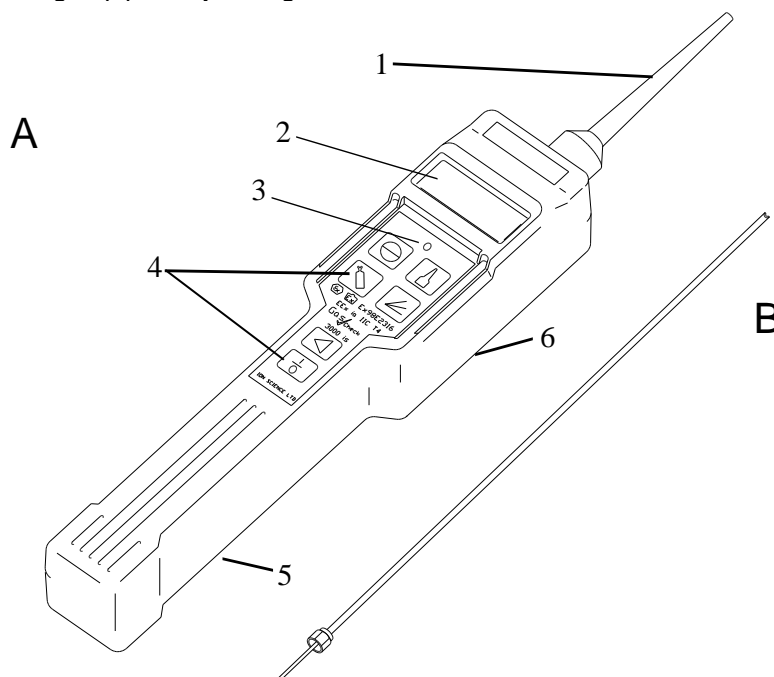

Figure 1 – The GasCheck 3000 and 3000is
Refer to Figure 1. The GasCheck is a portable, battery-powered, hand-held gas leak detector. Indications of a leak are shown on the digital display (2) and are also given by a front panel mounted LED flasher (3) and as audible clicks from the rear panel loud speaker (6). Two versions of GasCheck 3000 are available: